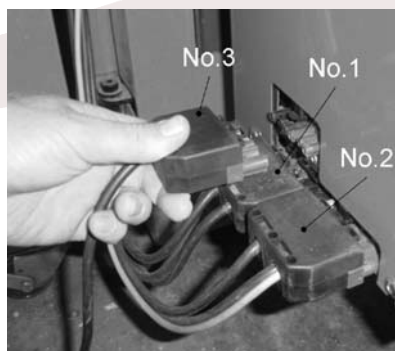

Figure 10-9: Pellet feed auger plug (3)
- Disconnect the 6-way plug (No.3), from the pellet feed auger, from the upper socket on the left side of the burner. Refer to Figure 10-9.
- Disconnect the 7-way plug (No.1) from the socket on the left side of the burner. Refer to Figure 10-9.
- Finally, re-fit both the 6-way and then 7-way plugs to their corresponding sockets on the left side of the burner. Ensure that both plugs are fully pushed home until the small catch clicks into place. Refer to Figure 10-9.